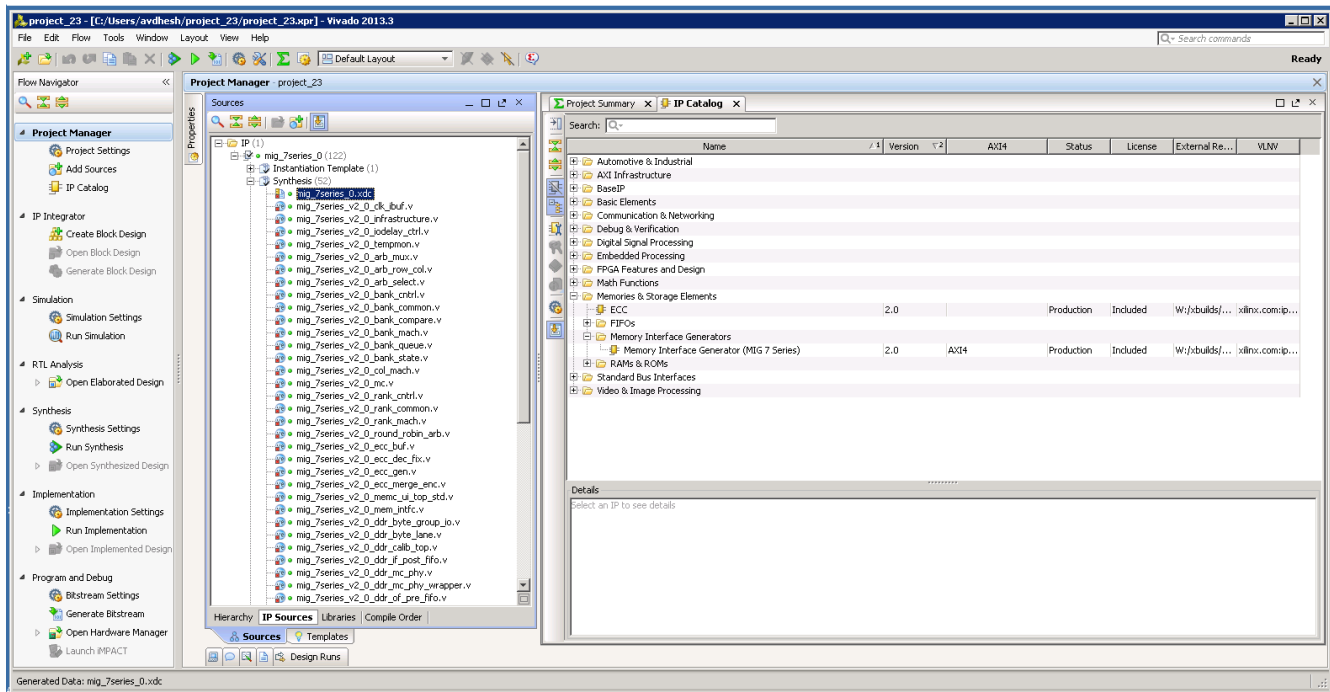

Figure 4-31: Generate RTL and Constraints
6. All MIG generated user design RTL and XDC files are automatically added to the project. If files are modified and you wish to regenerate them, right-click the XCI file and select **Generate Output Products** (Figure 4-31).